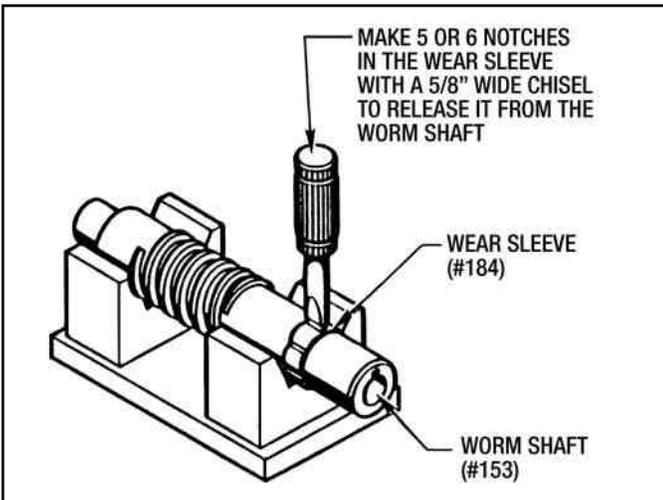

Figure 7.13 - Removing Wear Sleeve From Quill Worm Shaft
13. If the Wear Sleeve (#184) is damaged and needs to be removed from the Worm Shaft (#153) use the following procedure as shown in *Figure 7.13*.